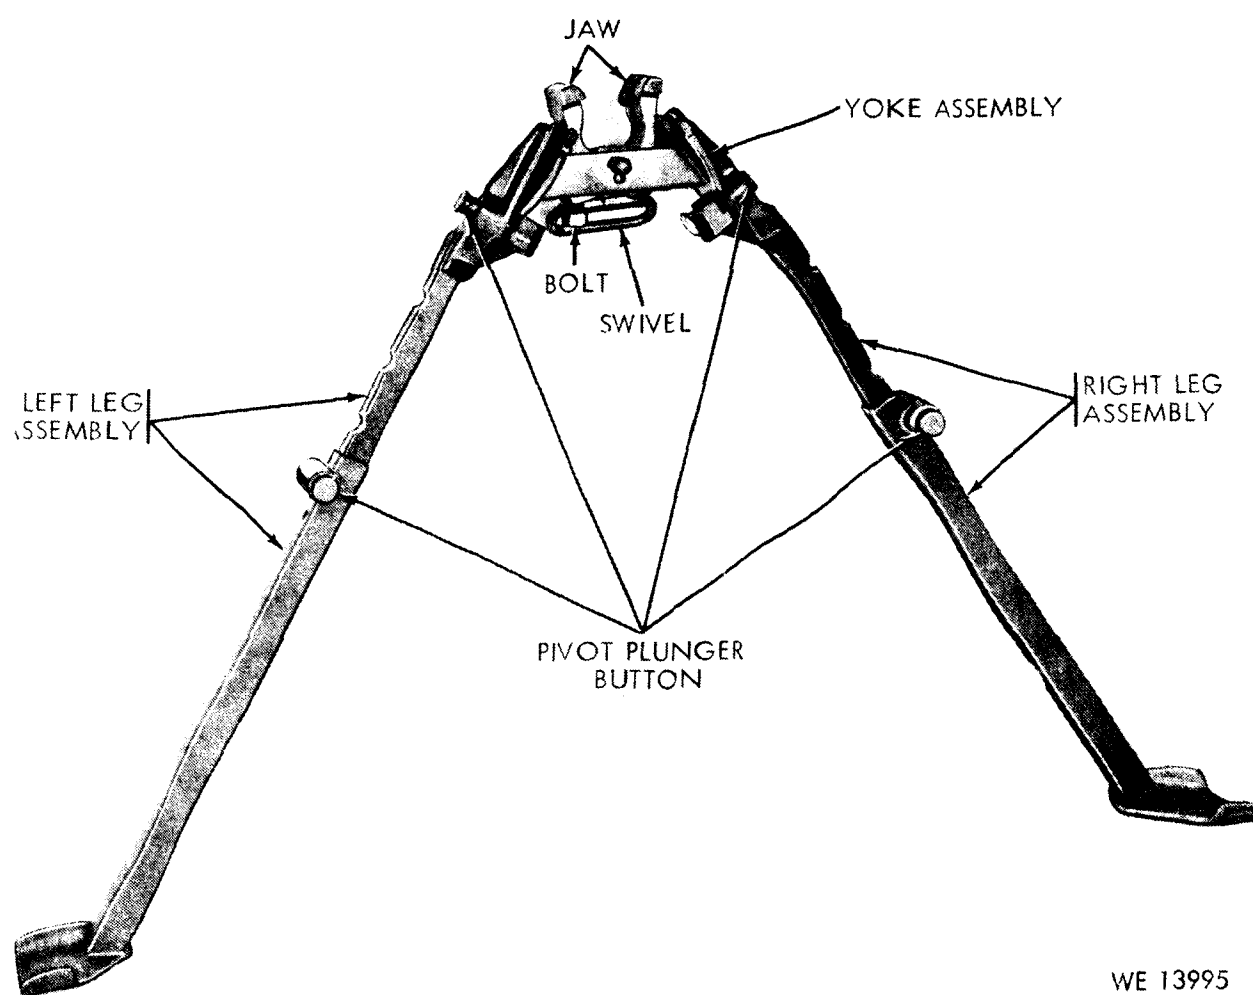

Figure 1-10. Rifle Bipod M2 and controls.
c. Rifle Bipod M2. See figure 1-10.